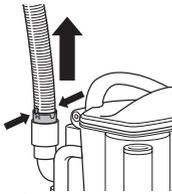

Fig. 27
- Detach the stretch hose from the back of the canister by squeezing the tabs together and pulling up. **(Fig. 27)** Straighten out the hose and look inside for blockages.